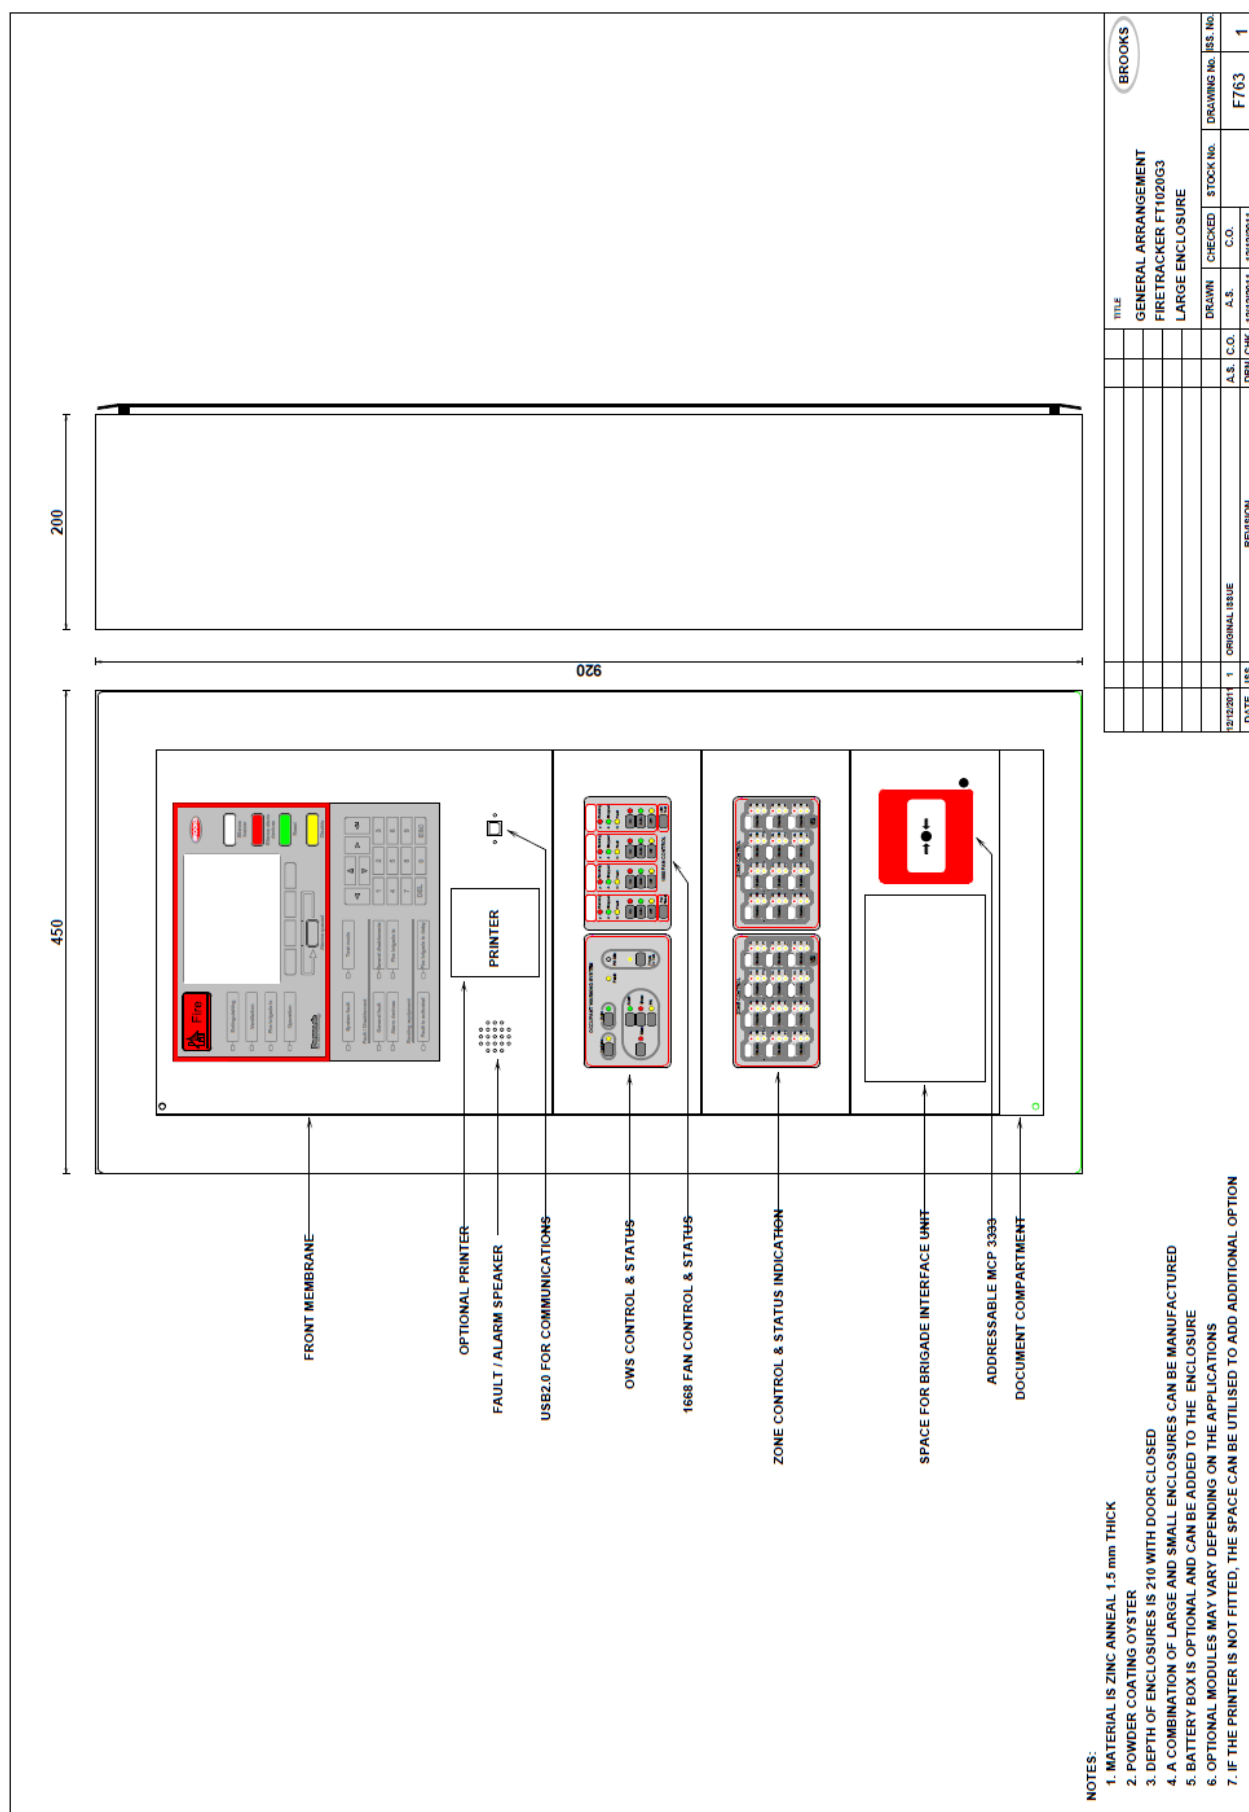

Figure 60 FT1020G3 General arrangement
1. Figure 60 FT1020G3 General arrangement , page 184